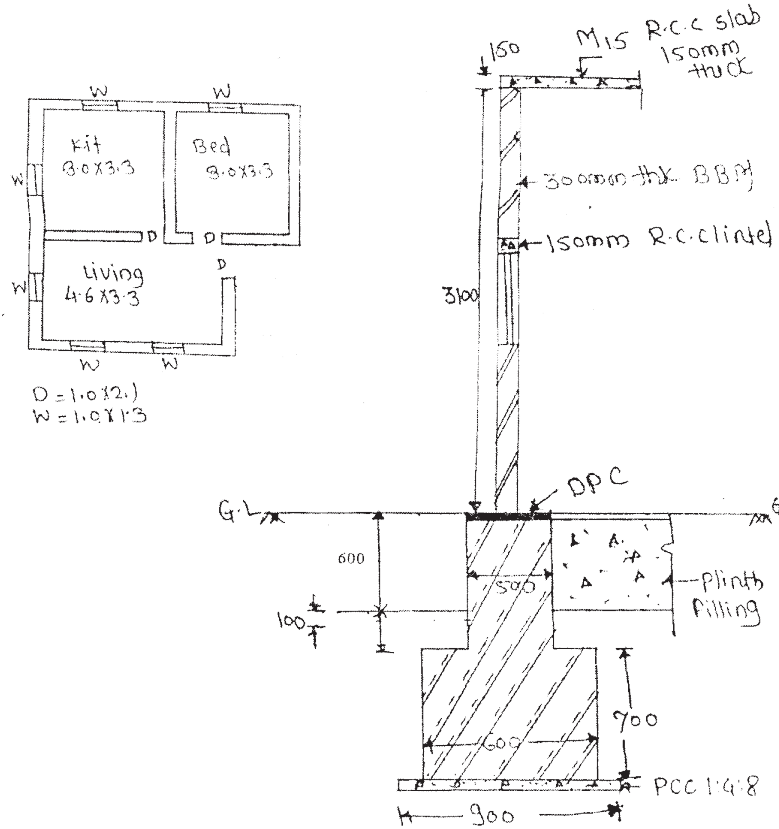

Fig. No. 2
- a) Calculate the quantity of Excavation and P.C.C. (1:2:4) for structure shown in Fig. No. 2.
- b) Calculate the quantity of BBM in CM 1:6 for structure shown in Fig. No. 2.